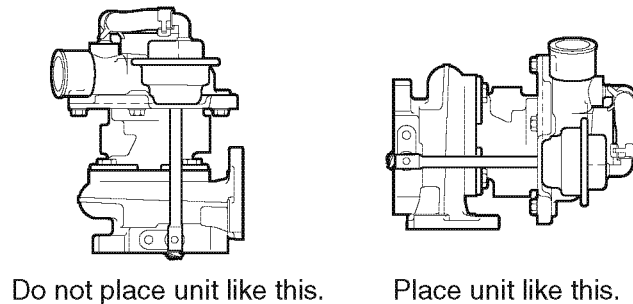

Figure 8-8
- Remove the turbocharger from the engine to perform maintenance. Be sure to keep the unit horizontal when you remove it from the engine (**Figure 8-8**). Holding the unit vertically can cause engine oil to leak into the compressor housing or turbine housing, leading to abnormal operation after reassembly.